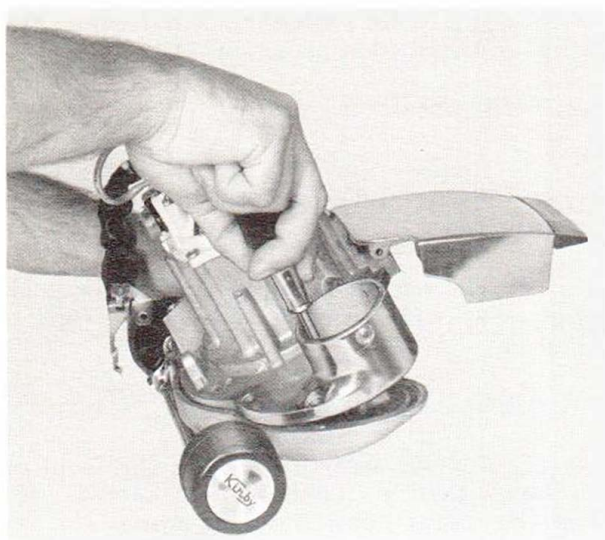

Figure 1-11. Tapping fan housing loose from motor housing
(2) To break loose the fan housing from the motor housing, insert a heavy screwdriver through the exhaust port of the motor housing and tap the end of the screwdriver. See figure 1-11.